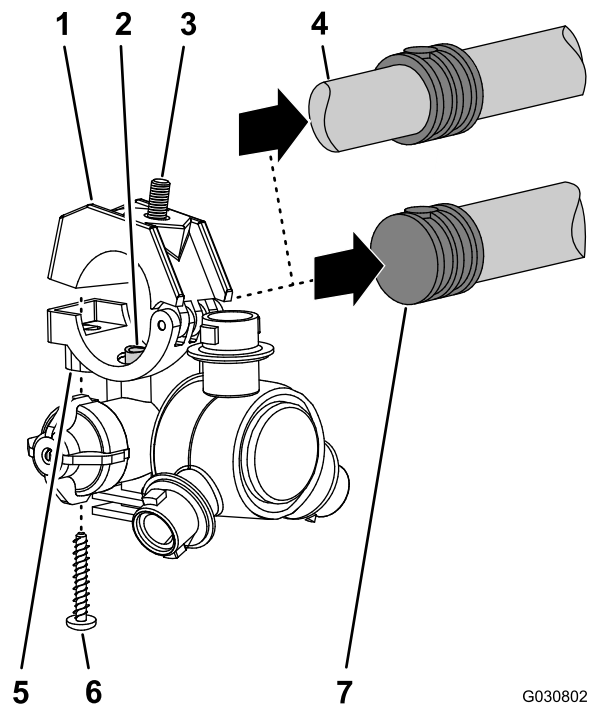

Figure 133
5. Working with the 8 sprayer nozzles that you removed in step 1, remove the stainless steel screws (#12 x 1-1/4 inches) that secures the upper clamp halves and the double or single barbed-hose shanks (3/4 inch) to the body of each of the sprayer nozzle, and remove the barbed-hose shanks (Figure 133).